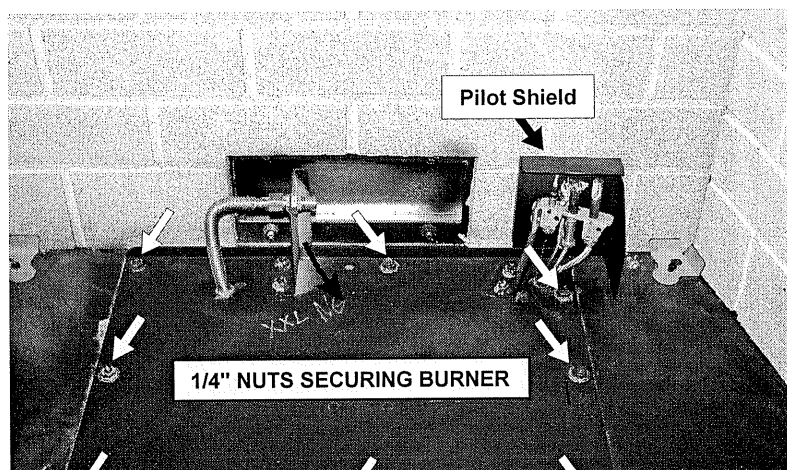

Figure F-1
## F. REINSTALL MILLIVOLT BOARD INSTALLATION. See Figures F-1 & F-2.
2. Attach the (8) nuts (you will use the 2 nuts previously removed & the 6 additional nuts included in the fireplace components packet) and tighten, securing the board in place. Figure F-1.
3. Position the pilot shield behind the pilot assembly. Figure F-1.